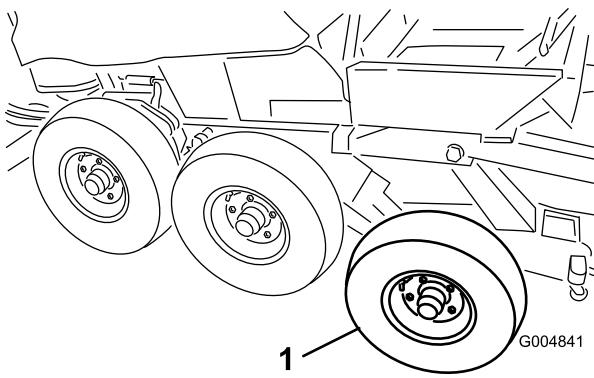

Figure 54
1. Washer & nut on the bogie pivot stud (2)
17. Remove the front and center tires from the winter assembly (Figure 54).